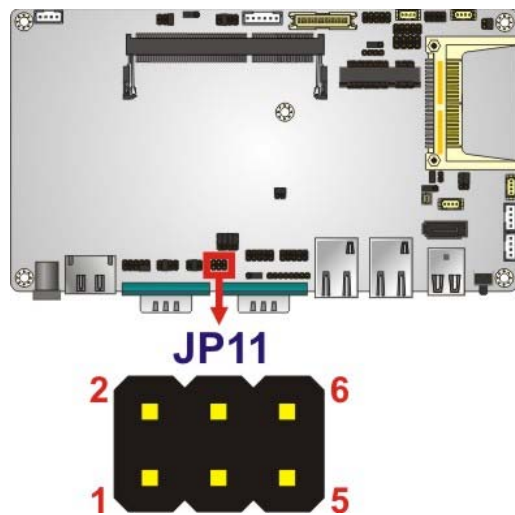

Figure 3-11: COM3 TX Function Select Jumper Pinout Locations
- Jumper Location:** See **Figure 3-11**
The COM3 TX Function Select jumper location is shown in **Figure 3-11** below.